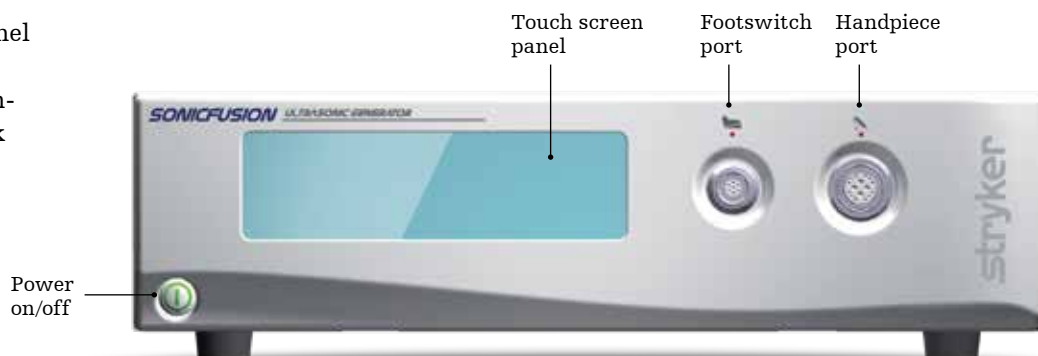

Fig. 7
3. Connect the handpiece and footswitch to the appropriate ports (Fig. 7, handpiece port, footswitch port)
The ultrasonic generator front panel features ports for connecting the handpiece and footswitch, a touch-screen to provide system feedback and a power on/off button (Fig. 7).